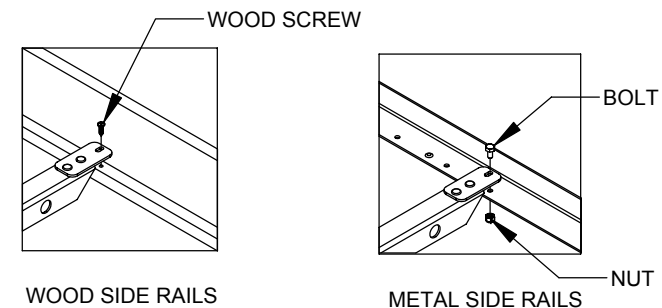

FIGURE 5
Step 5. Secure CROSS SUPPORTS to SIDE RAILS as detailed in Figure 5.